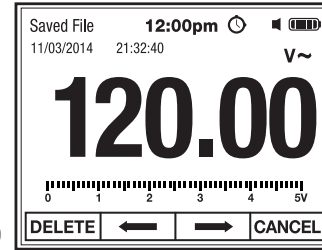

Fig. 19
4. Use the **F2** ⇐ and **F3** ⇒ soft keys (Fig. 19) to select other Saved Files as shown in Step 2.
5. Press the **F1** DELETE soft key to delete Saved File (Fig. 19).
6. Press the **F4** CANCEL soft key to return to Measurements without deleting (Fig. 19).